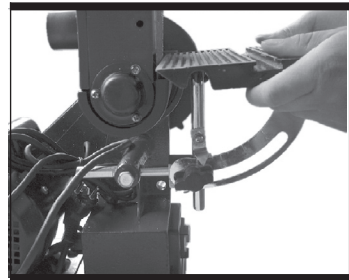

Fig 11-2
- 2) Position the worktable not further than 1.6mm from the sanding surface. (Fig 11-2)